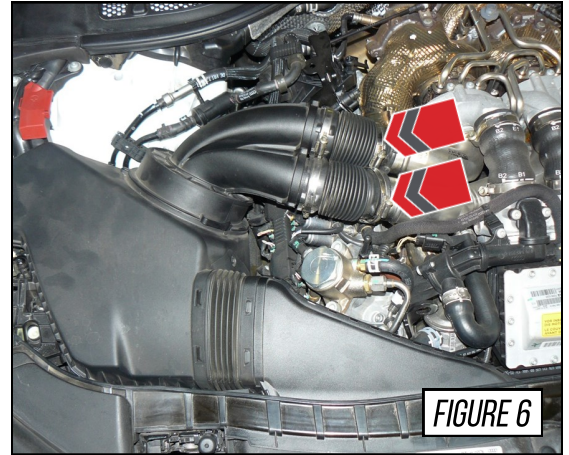

FIGURE 6
Loosen the two (2) hose clamps shown at the arrows in **Figure 6**